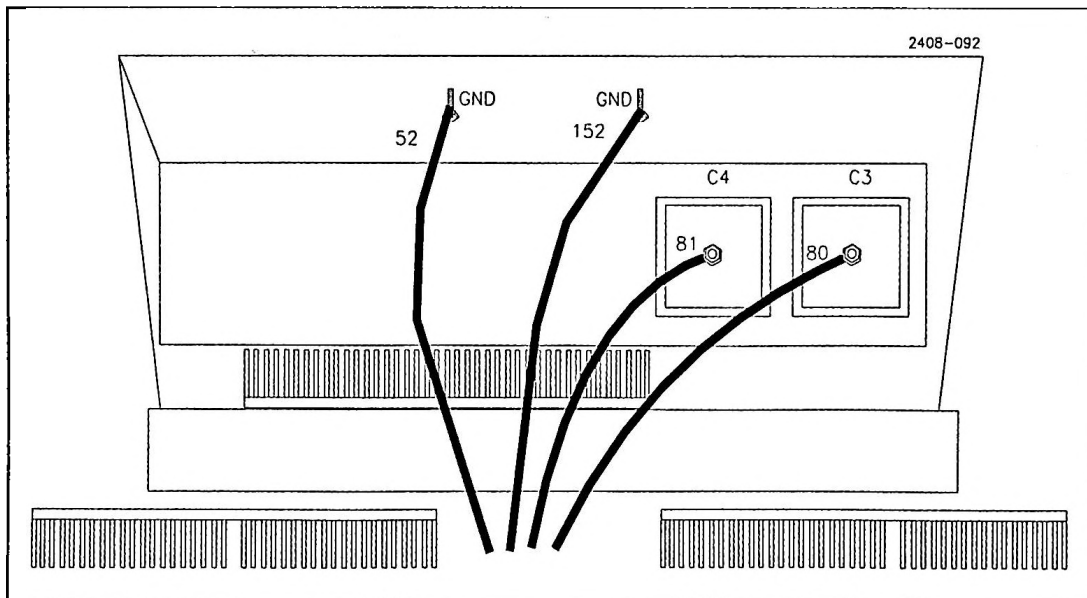

Figure 2-4 DC and Ground Connections for Single Phase Power Supply
- d. Wires 80 and 81 (large orange cables tied up with the transformers) connect to the feed-thru terminals at the top of the power supply compartment. See Figure 2-4. The cables are dressed such that the shorter cable, 81 connects to the left hand terminal and the longer cable, 80 connects to the right hand terminal.
- f. The large orange ground wires, #52 and 152, coming from the power supply attach to the ground stud at the top-front edge of the power supply compartment. It is located under the shelf which separates the power supply from the PA compartment, see Figure 2-4.